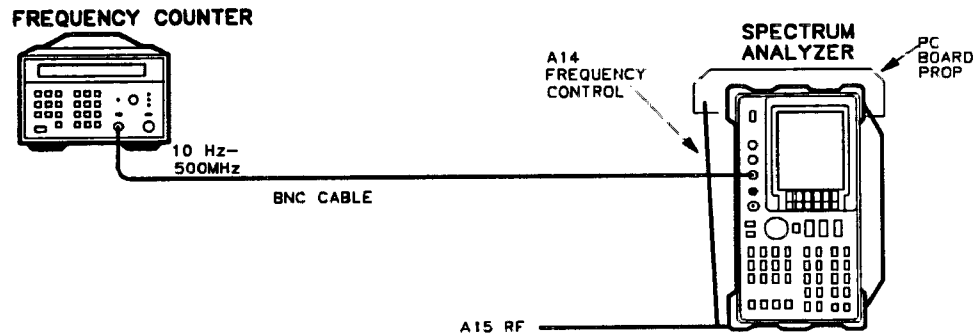

Figure 2-14. 10 MHz Frequency Reference Adjustment Setup
1. Connect the equipment as shown in Figure 2-14. Prop up the A14 Frequency Control Assembly.